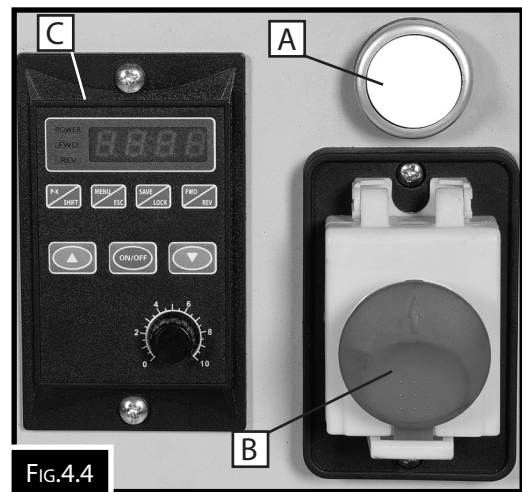
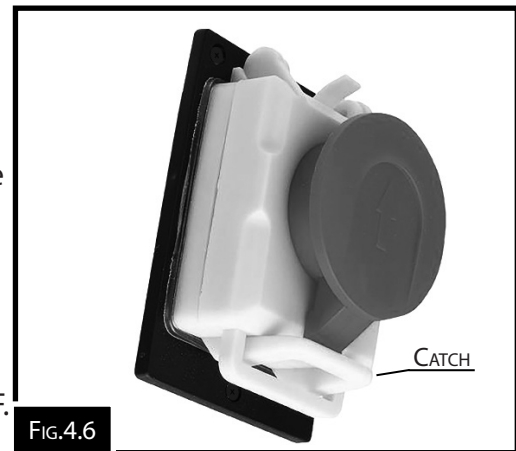

FIG.4.4
FIG.4.6
1. **ON/ OFF Switch.** Switches ON or OFF the power circuit in the machine. (Fig.4.6) ("B" in Fig.4.4)
2. **Power Lamp.** Is illuminated when power is connected to the machine ("A" in Fig.4.4)
NOTE: item "C" in Fig.4.4 controls the AC inverter motor and the parameters are set in the factory and locked. The parameters should only be changed by a factory service engineer.
To start the machine the yellow door needs to be released by pressing against the catch (Fig.4.6) to open it and reveal the green ON and RED stop buttons.